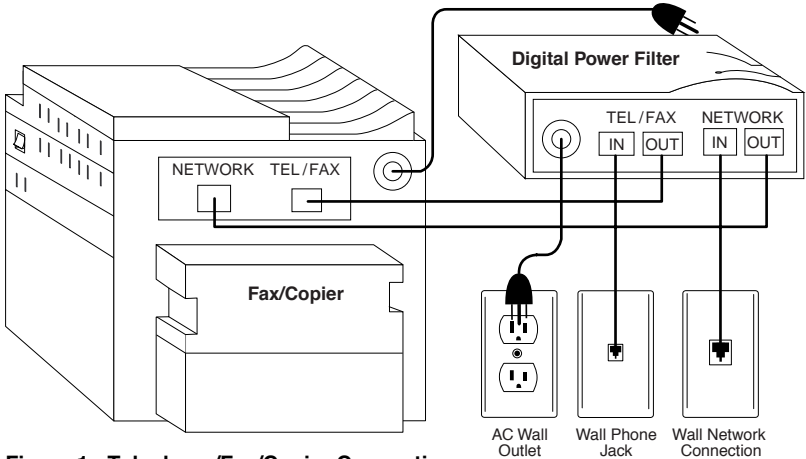

Figure 1: Telephone/Fax/Copier Connection
1. Connect the telephone line (from the wall jack) to the DPF's TEL/FAX IN jack. (see Figure 1) *NOTE: The DPF telephone jacks (RJ-14) protect both lines of a 4 wire telephone cable.*